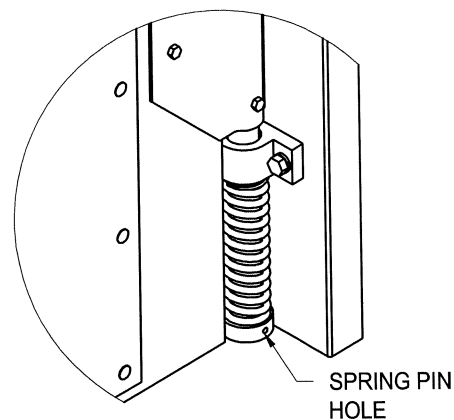

fig. 10
- Drill 3/8" hole through v-cam follower and shaft. Use 3/8" spring pin hole as a guide (fig. 10).